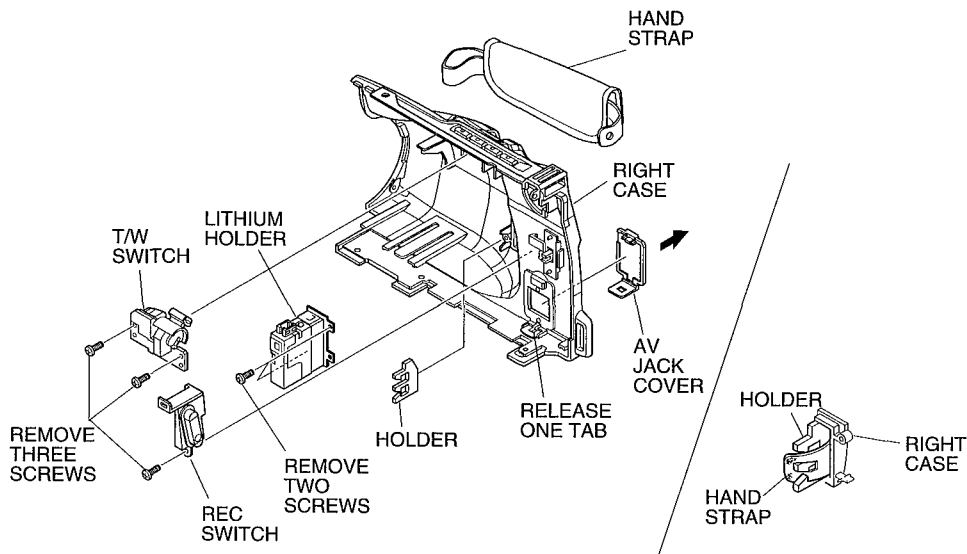

Fig. 2-5
2.4 T/W & REC Switch, Hand Strap, Right Case (Fig. 2-5)